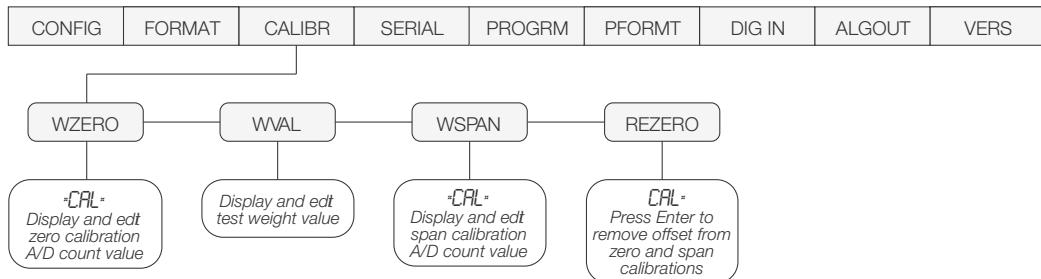

Figure 4-1. Calibration (CALIBR) Menu
2. Press \triangleright until the display reads *CALIBR* (see Figure 4-1). Press \triangledown to go to zero calibration (*WZERO*).